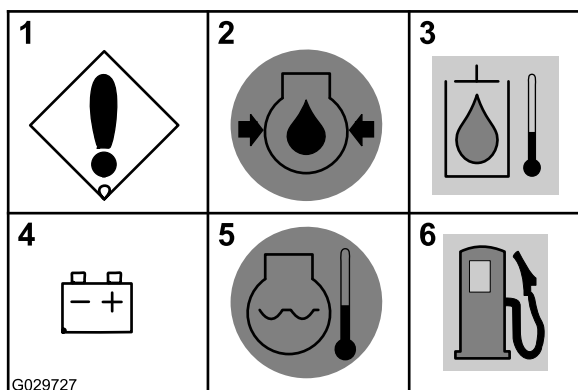

Figure 33
- **Machine or engine error**—This message displays if the machine or engine experiences a fault. The cause of the fault is given in the Instrument Panel Diagnostics (Figure 33).
- **Low engine-oil pressure**—This warning message displays if the oil pressure of the engine is 90 Kpa (13 psi) or lower (Figure 31 and Figure 33).
- **High hydraulic-oil temperature**—This message flashes if the oil in the hydraulic system is 102° C (215° F) or higher (Figure 33)
- **Check alternator or battery**—This message displays if the alternator and battery voltage is 12 volts or less (Figure 31 and Figure 33).
- **Engine overheated**—This message flashes if the engine coolant is 104° C (220° F) or higher (Figure 31 and Figure 33).